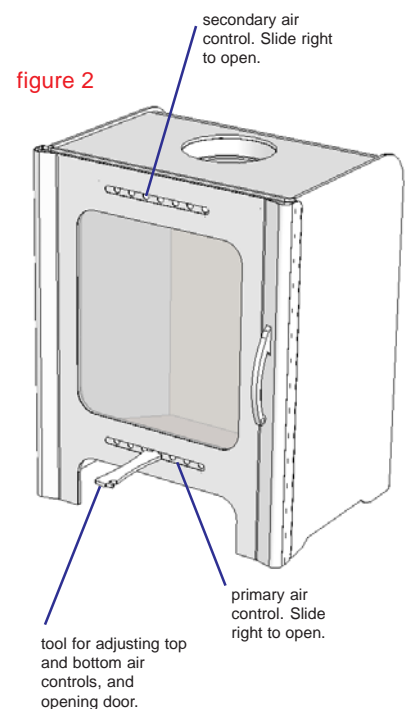

figure 2
Step 1 Open the top air control and bottom air control fully. **figure 2**